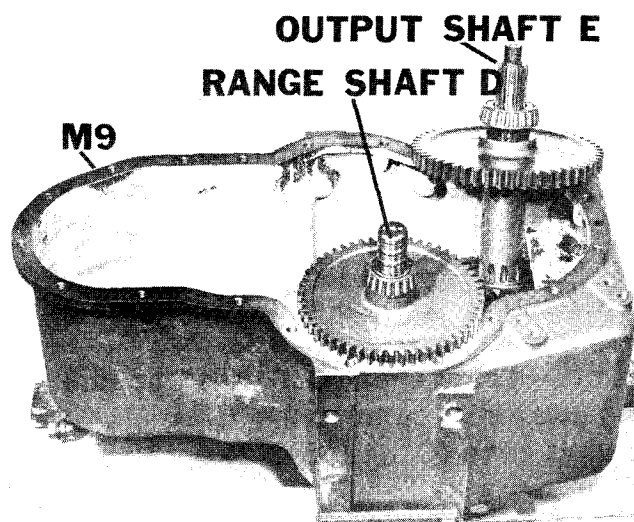
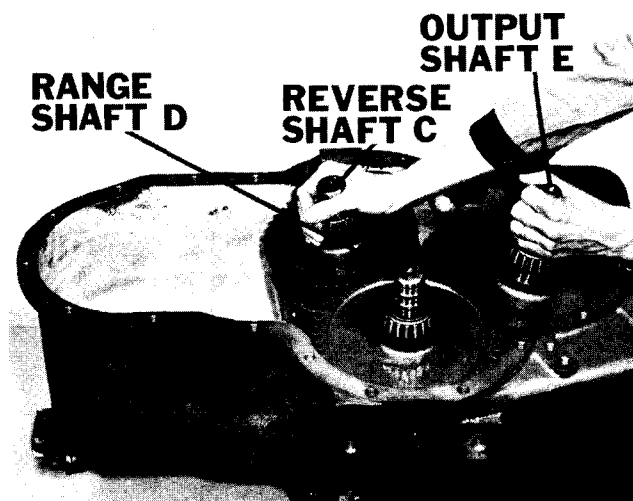

Figure 48
Figure 49
3. Hang range shaft assembly (D) on lip of case (M-9) (Figure 48).
4. Insert output assembly (E) and mesh with bottom gear of range shaft assembly (D). Leave output shaft cocked toward bottom of main case (M-9).
5. Insert reverse shaft assembly (C) and mesh top and bottom gears with corresponding gears on range shaft assembly (D) (Figure 49).
6. Lower three shaft assemblies into bearing cups; pull on reverse shaft assembly (C) and push on output shaft assembly (E) to bring remainder of gears into proper mesh (Figure 49).